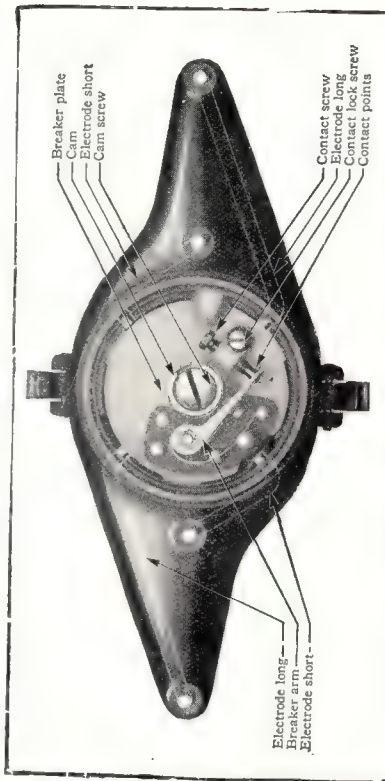
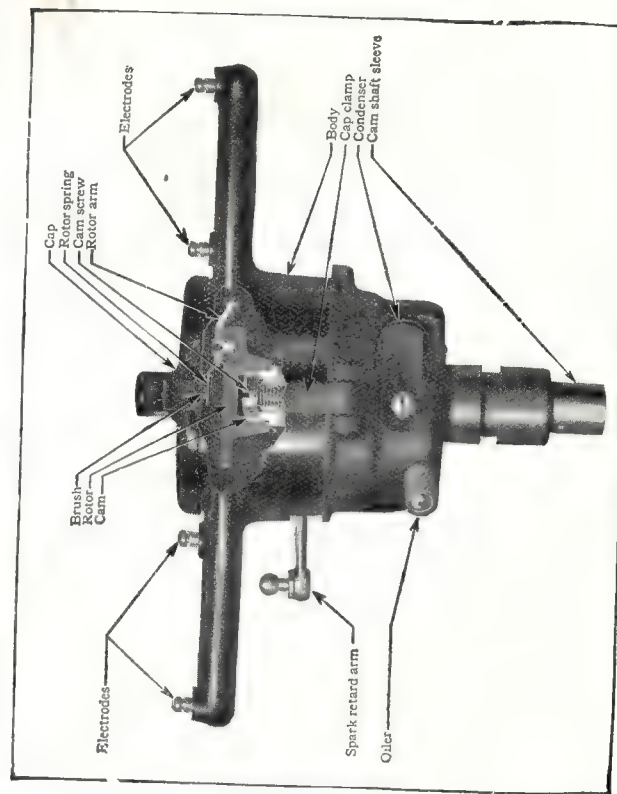

Figure 14
Figure 15
To adjust the points, proceed as follows:—Remove the distributor cap rotor and body (see Fig. 15). Turn the engine over slowly with the starting crank until the breaker arm rests on one of the 4 high points of the cam (Fig. 14). Test, and, if gap is not correct, loosen locking screw and turn the contact screw until the gap measures .018in. to .022in. Standard thickness gauges are used for making the measurement.
6. Loosen cam locking screw (see Fig. 14) until cam can be turned.